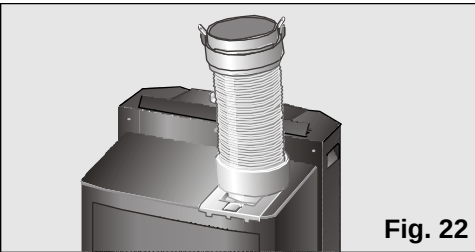

Fig. 22
- ☐ Remove the diffusion duct and set the air expulsion tube to the position shown in fig 22.